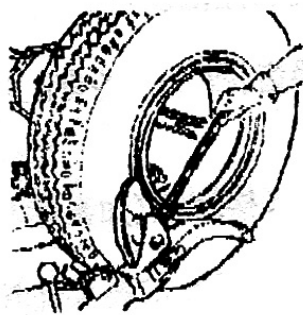

Fig2.14
- 4) Sledge the press bar with crow in the opening and pull it with plate. Turn the tire in the anti-clockwise until the press bar to fall down (Fig2.14).